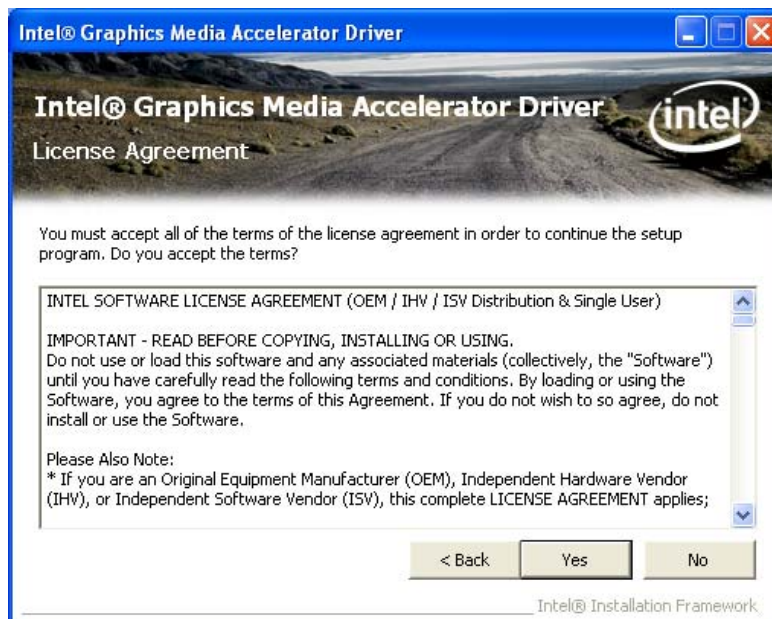

Figure 5-10: Graphics Driver License Agreement
Step 10: The License Agreement in Figure 5-10 appears.